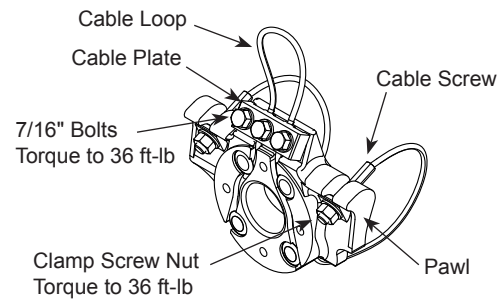

Figure 2
5. Place both cable screw assemblies in the casting pawls of the female clamp as shown. (Figure 2)
7. Torque the (3) 7/16" bolts to 36 ft-lb of torque. **DO NOT OVERTIGHTEN.**